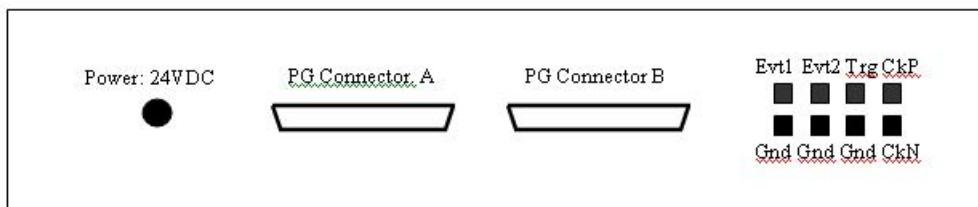

Figure 2 – P331 Back Panel
In this configuration, the P331 always sources the master clock to the PG3A and thus, an Inputs probe is always required. Use the CkP/CkN signals from the P331 as the input source to the Inputs probe and connect the probe to the PG3A. **Figure 2** shows the P331 back panel connectors for reference.
- 3) Connect an Inputs probe to the PG3A and connect the CkP/CkN square pin outputs from the back panel of the P331 (see **Figure 2**) to the clock input of the Inputs probe.